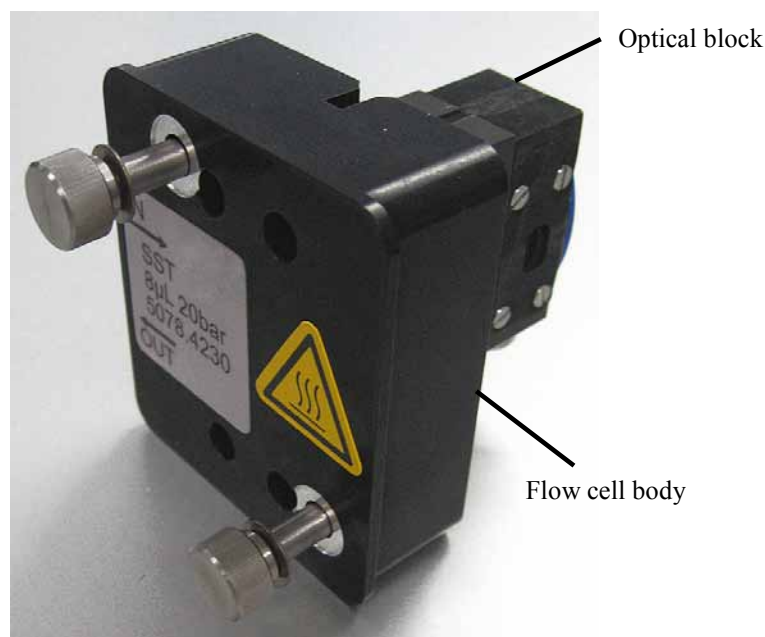

Fig. 15: Flow cell of the fluorescence detector
- Always hold flow cells by the flow cell body with the type label. Do not touch the optical block of the flow cell (→ Fig. 15) or the sensitive electronics on the flow cell rear side.
- ◆ Always hold flow cells by the flow cell body with the type label. Do not touch the optical block of the flow cell (→ Fig. 15, page 48).